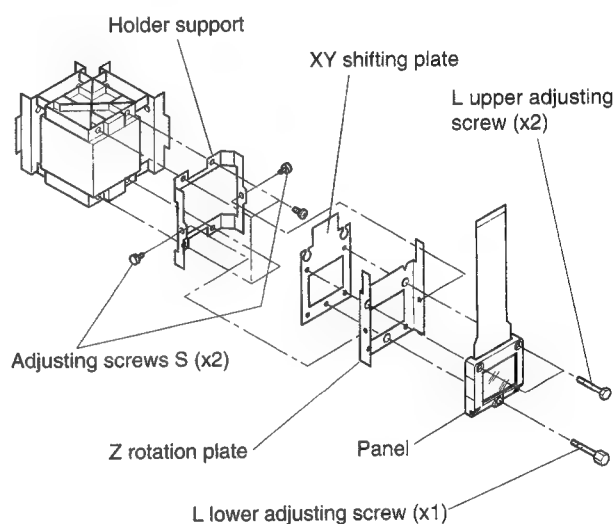

Fig. 1-3-16 Mounting view of a holder for service
3. Mount a holder support for the service holder at the location of the panel holder removed. (Use screws removed in step 2.) (Refer to Fig. 1-3-16 for the following steps.)